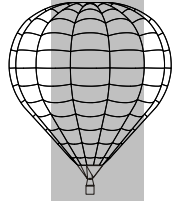

Figure 9
- Access to the main valve sleeves will be greatly improved by first removing the igniter assembly (section 5.6), the fuel filter assembly (section 5.9), the pressure gauge (section 5.11), the liquid fire jet (section 5.12) and the two screws used to secure the external body (item 26, Figure 9).
- Remove the “O” seal (item 17) from the underside of the jet lower flange where it mates with the valve block. Check the condition of the seal. If any deterioration of the seal is detected, it must be replaced.
To remove the liquid valve handles, refer to Figure 9 and proceed as follows:
To remove the double action mechanism, refer to Figure 9 and proceed as follows:
The external valve body is fitted on the underside of the main valve block and encloses the main and liquid valve bonnets. In order to gain access to the main and liquid valves, the external valve body must be removed. To remove the external valve body, refer to Figure 9 and proceed as follows: